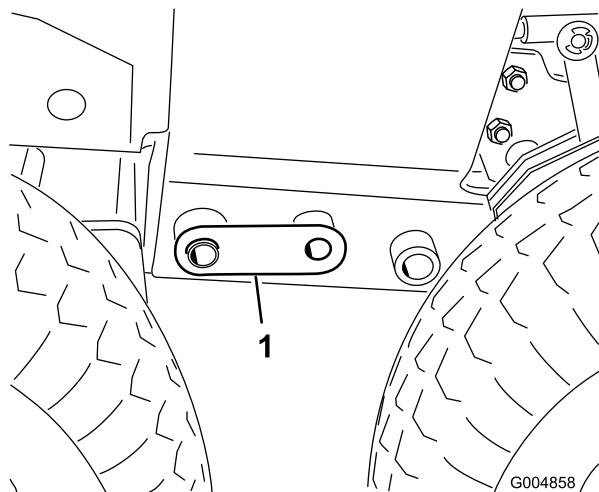

Figure 114
25. Adjust the floor jack to line up the 2.5 cm (1.00 inch) holes in the frame and install a coupler pin on each side (Figure 114).